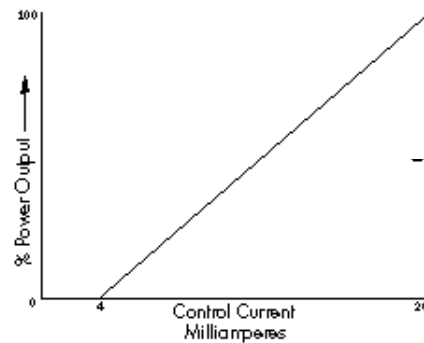

Figure 9.
1. Current proportional: A 4-20 mA signal is generated in response to the heating % requirement. See **Figure 9**. This signal is used to drive SCR power controllers and motor-operated valve positioners.